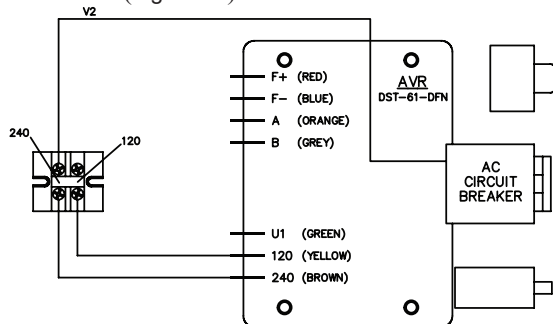

Figure 28: Voltage Selector Terminal, 240 Volt Output
- a. 240 volt output can be selected by connecting the terminals of the control terminal board to 240 (Figure 28).